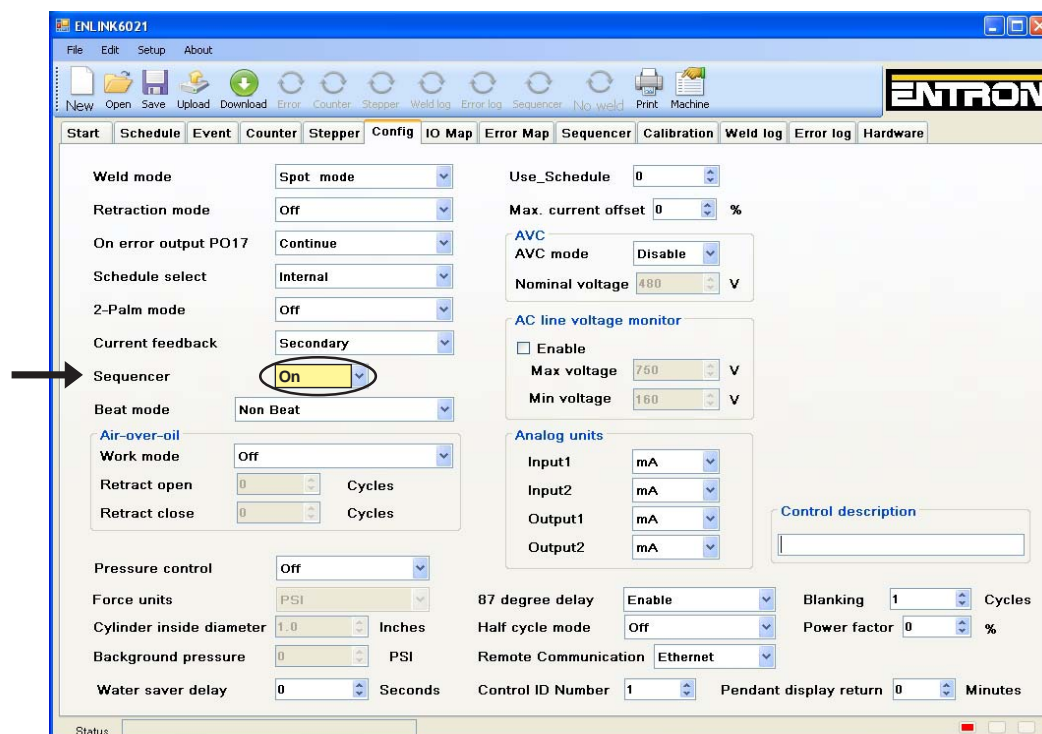

Figure 9-47. Configuration page
B. Enable SEQUENCER function on Configuration page (Figure 9-47).